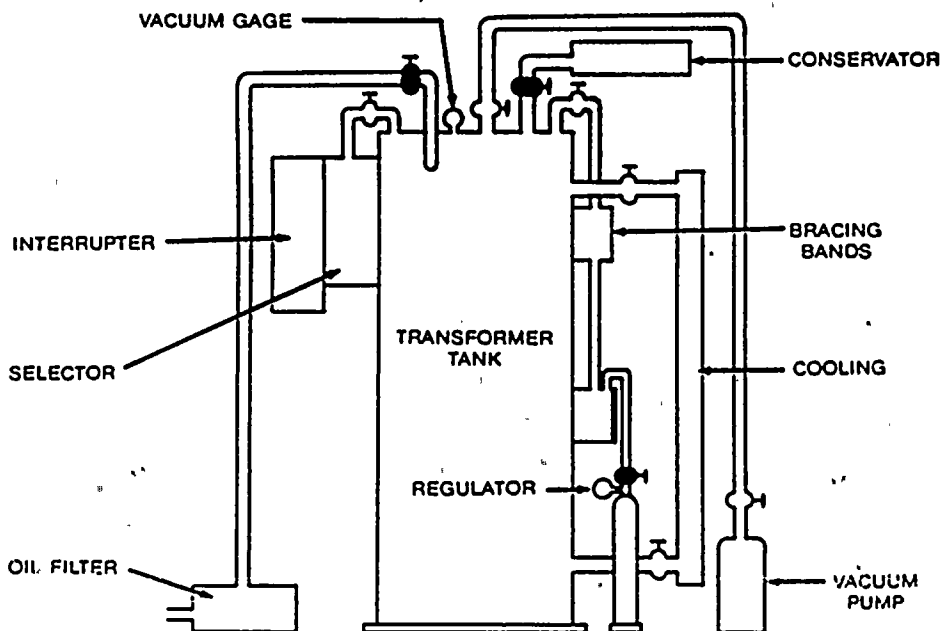

Figure 6.
See Figure 6 for a typical vacuum oil-filling hookup; see Table 1 for sequence and values.
2. Open all valves to those accessories requiring vacuum. (See PRELIMINARY PREPARATIONS PRIOR TO FILLING and Figure 6.)
3. Blank off all accessories that are not capable of withstanding high vacuum. (See PRELIMINARY PREPARATIONS PRIOR TO FILLING and Figure 6.)
1. Open all valves to accessories requiring vacuum. (See PRELIMINARY PREPARATIONS PRIOR TO FILLING and Figure 6.)
2. Blank off all accessories that are not capable of withstanding high vacuum. (See PRELIMINARY PREPARATIONS PRIOR TO FILLING and Figure 6.)